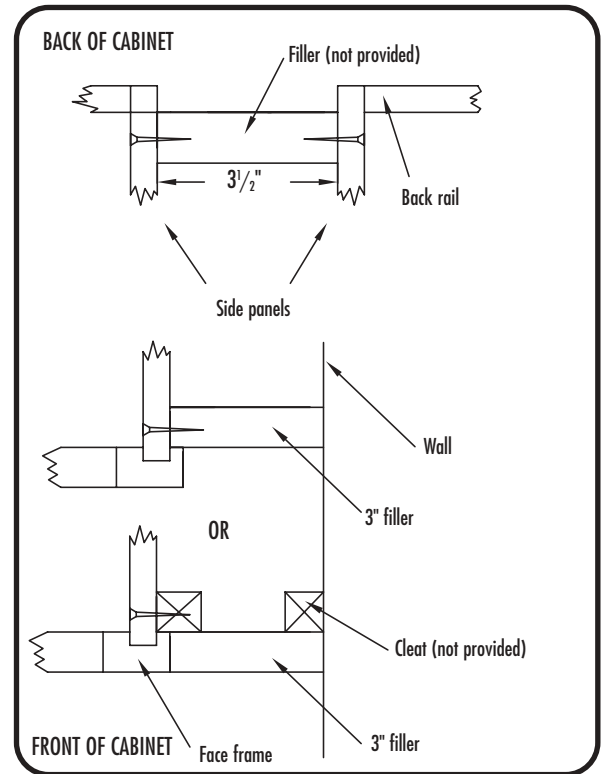

Figure 13
- Clamp filler in place next to or just behind cabinet face frame (Figure 13).